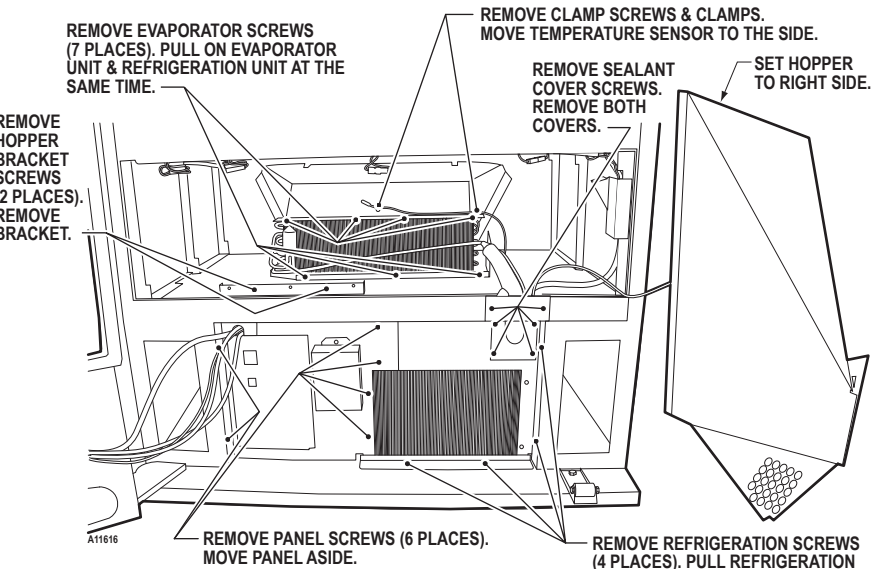

FIGURE 15. SET HOPPER ASIDE & REMOVE SCREWS
4. Remove and save the Condenser Filler Cover and the 4 screws. Refer to Figure 15.
9. Remove and save the two (2) screws holding the Hopper Bracket in place. Remove and save the Hopper Bracket.
11. Remove and save the three (3) screws that attach the Evaporator to the Air Duct.
13. Grip the front lip of the Condenser base and the Evaporator base and pull out at the same time. See Figure 15.